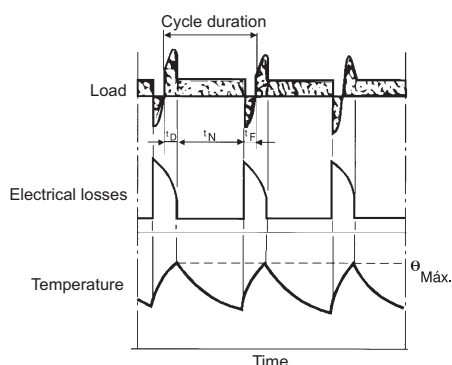

Figure 7.15
A sequence of identical duty cycles, each cycle consisting of a starting time, a time of operation at constant load and time of electric braking. There is no time de-energized and at rest, see Figure 7.15.
- Motor output required to drive the load. If the load varies cyclically, provide a load x time diagram (as example see Figure 7.15).